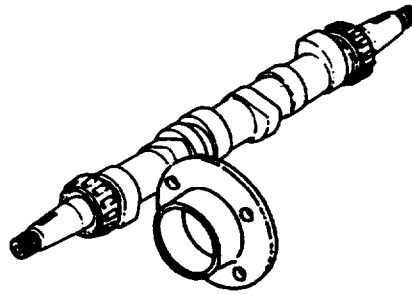
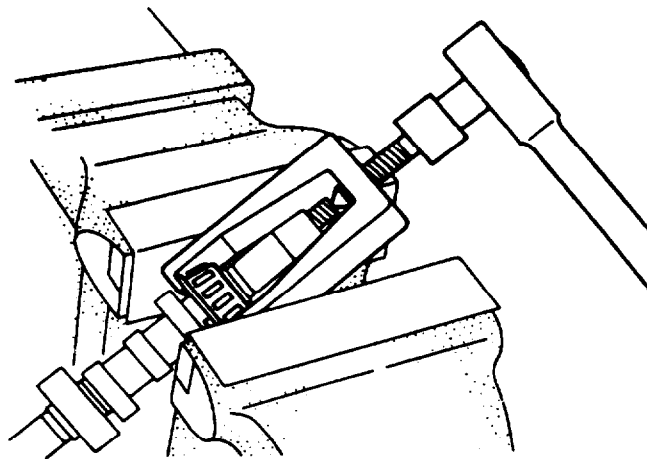

FIGURE 3-24. Camshaft Bearings
FIGURE 3-25. Bearing Removal
- m. Check bearings (20, FIGURE 3-8) for rollers deviating from inner race or peeled, damaged, or burnt surfaces, refer to FIGURE 3-24. If found defective, refer to FIGURE 3-25 and replace defective bearings by pressing bearings from shaft and race from cover (17, FIGURE 3-8) or governor housing (17, FIGURE 3-7).